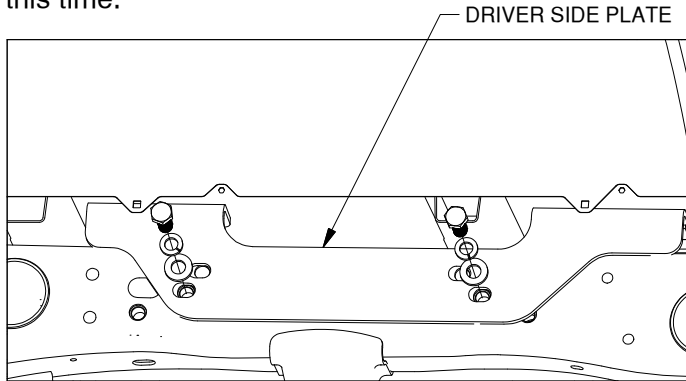

Figure C1: View from outside of driver side frame.
1. **Install the side plates.** Once the 9/16" holes are drilled, replace the frame brackets on each side of the truck and attach using two M16 cap screws, a 5/8" lock washer and a 5/8" flat washer as shown in figure C1. Do not tighten the mounting hardware at this time.